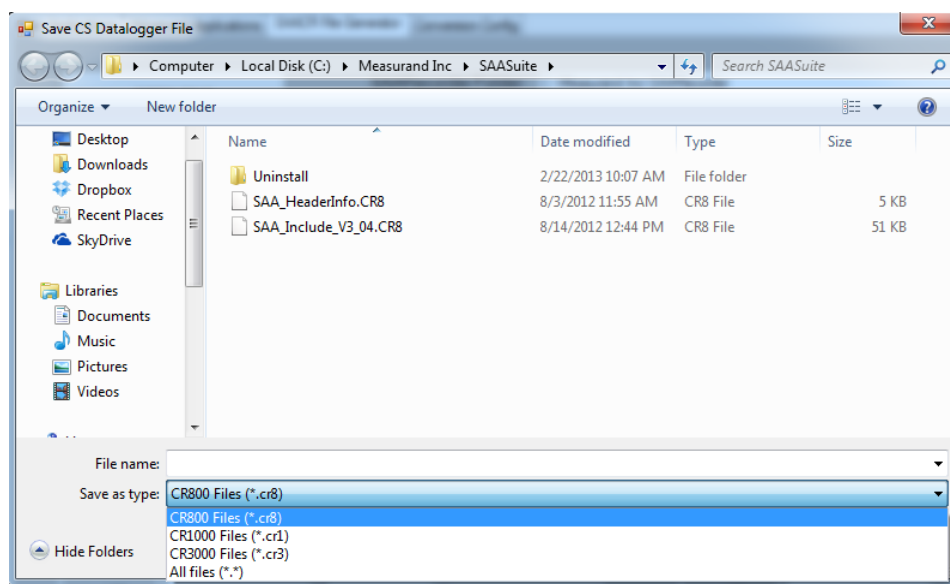

Figure 6.8: Saving a logger program created using the SAACR File Generator utility.
- 5) Generate CR1/CR3/CR8 File: The main difference between the CR800, CR1000 and CR3000 is the number of COM ports available, and thus the number of SAAs that can be connected to each. To choose the appropriate data logger type, click the “Generate File” button, and select the desired file type in the save screen (Figure 6.8). Enter the desired file name for the main program file and click “Save”. A separate SAA_Include file (see Figure 6.8 for example) will be generated at the same time as the main program file. Both of these files must be loaded onto the logger for the main program file to work properly.